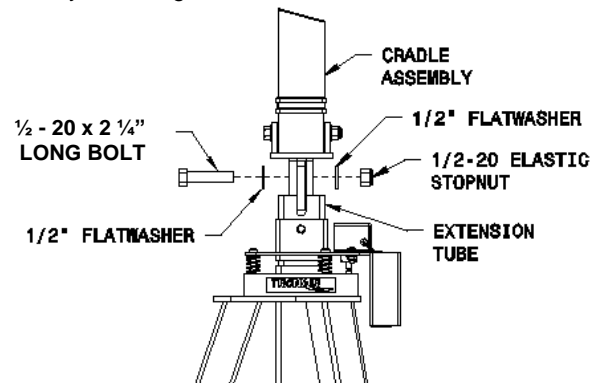

FIGURE 3 (for reference)
2. Fasten cradle assembly to extension tube with one (1) 1/2 - 20 x 2 1/4 inch hex head bolt, 1/2 inch flatwasher, and 1/2 - 20 elastic stopnut. **reference Figure 3.**